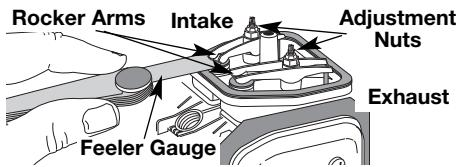

Fig. 36
- The piston is at the top of its travel while looking in the spark plug hole (Fig. 36)
9. Slide the feeler gauge between the rocker arm and the valve return spring. Measure the clearance between the valve stem and rocker arm (Fig. 36). Measure both the intake and exhaust valves.
a. Turn the adjusting nut using a 5/16 inch (8 mm) wrench or nut driver (Fig. 36).